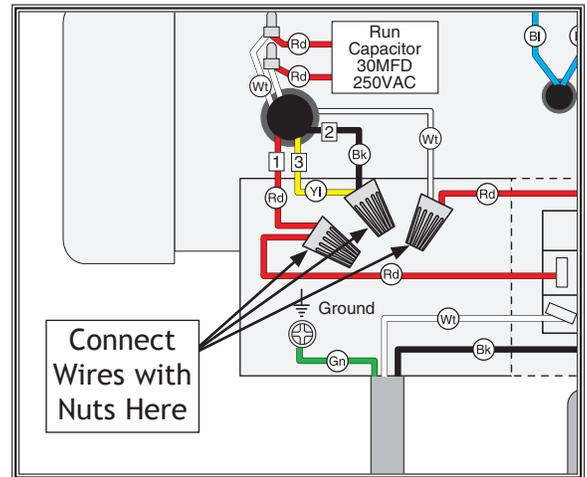

Figure 4. Model W1844 rewired to 240V.
4. Use wire nuts to connect wires as indicated in **Figure 4**. Twist all three wire nuts onto their respective wires and wrap them with electrical tape so they will not come loose.